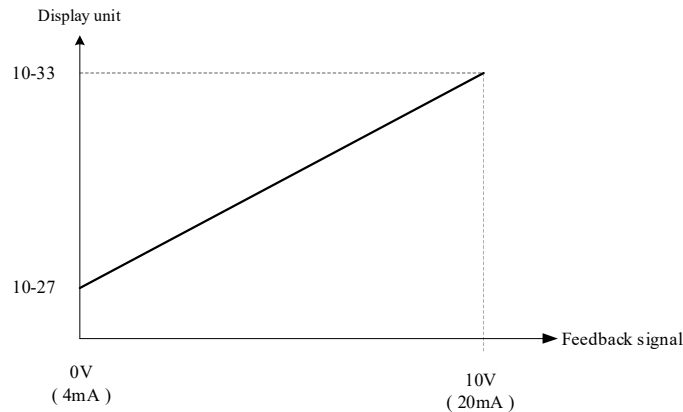

Figure 4.3.110 Display Unit Conversion
- Refer to Figure 4.3.110 for display unit conversion.